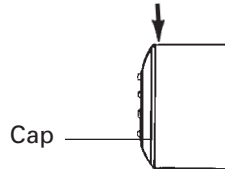

Figure 7
4. Using a knife edge, carefully pry off float cap (See Figure 7).